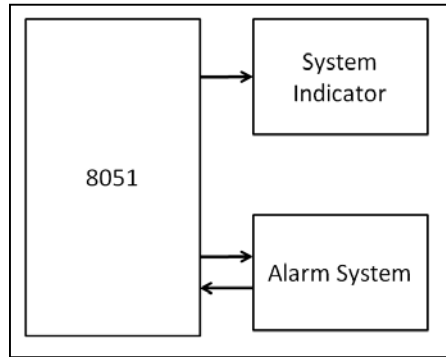

Figure 3: Alarm System
Figure 3 shows the concept of alarm system. The 8051 microcontroller needs to control **two (2) applications** which are **system indicator** and **alarm system**.